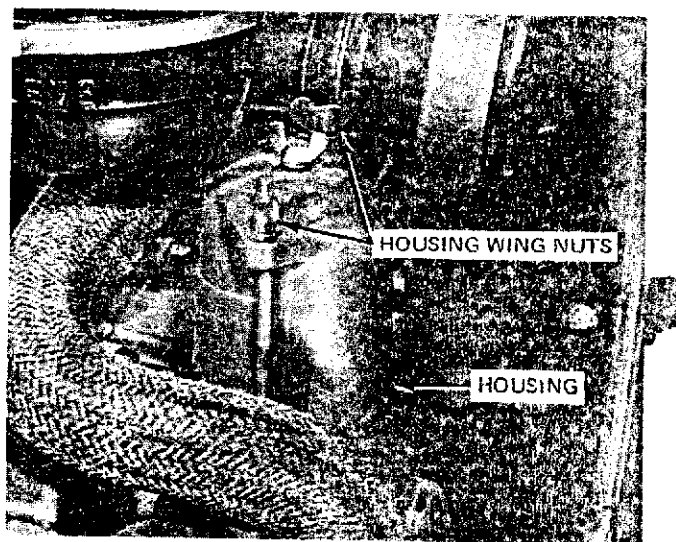

Figure 36 — Hydraulic System Filter
1. Remove two wingnuts holding filter housing in place Figure 36.